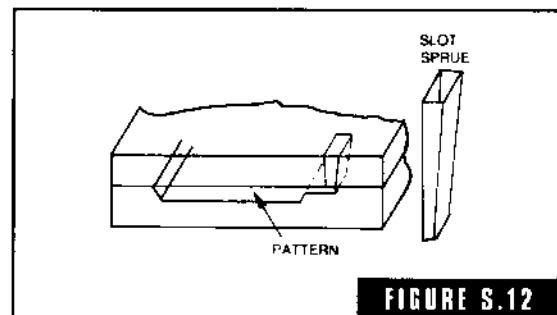

FIGURE S.12
**slot sprue** A rectangular-shaped sprue widely used in aluminum and magnesium casting (Fig. S-12).